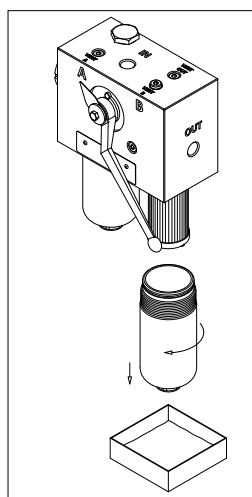

fig. 11
- (Fig. 11) Unscrew the filter bowl while keeping the collection vessel